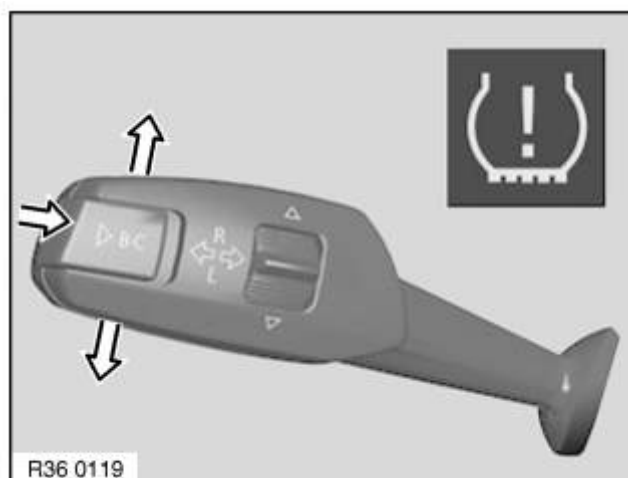

Fig. 25: Locating TPM System Reset Button (Without iDrive)
3. Move turn signal lever up or down until TPM warning symbol and RESET appears. See Fig. 25.